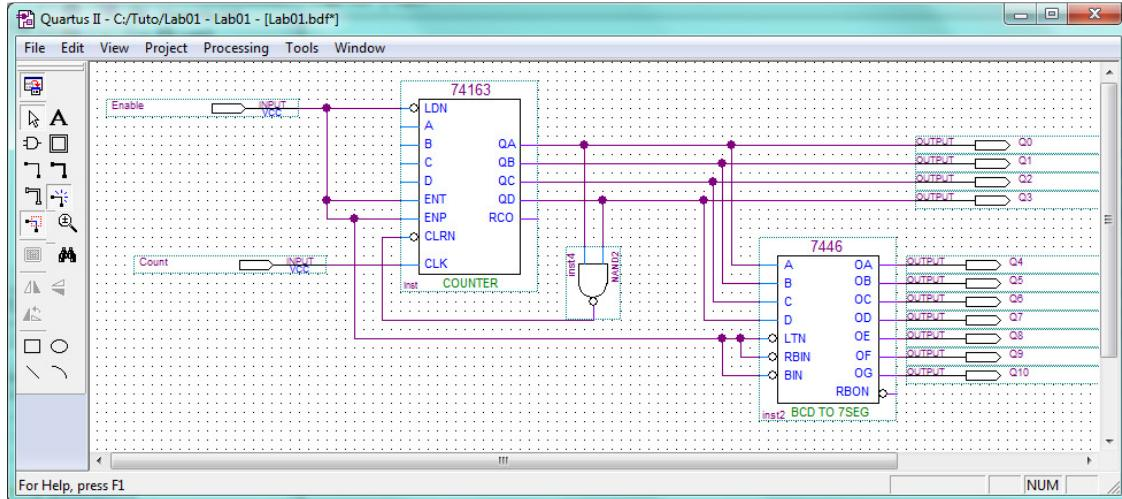

Fig. 7: Schematic File design of a Decimal Counter
6. Draw the schematic design of a mod-9 counter module as shown in Fig. 7. This counter counts from 0 to 9 and resets to 0.